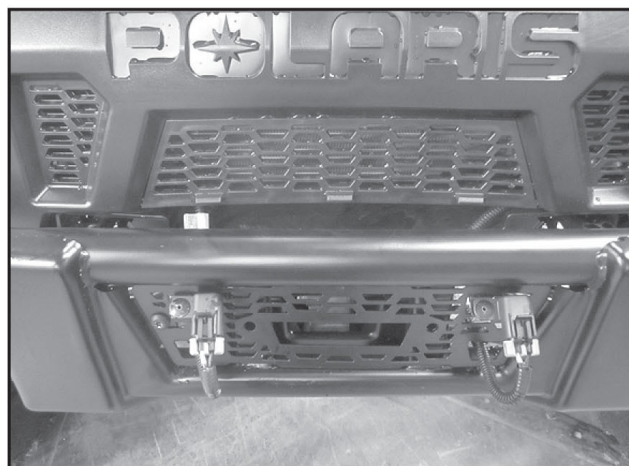

Figure 26
10. When plow system is removed from the unit the plow control wires should be connected to the cap installed on the grille in **step 3** (in *Wiring Kit Assembly Section*) to prevent moisture and debris from entering the plug as shown in figure 26.